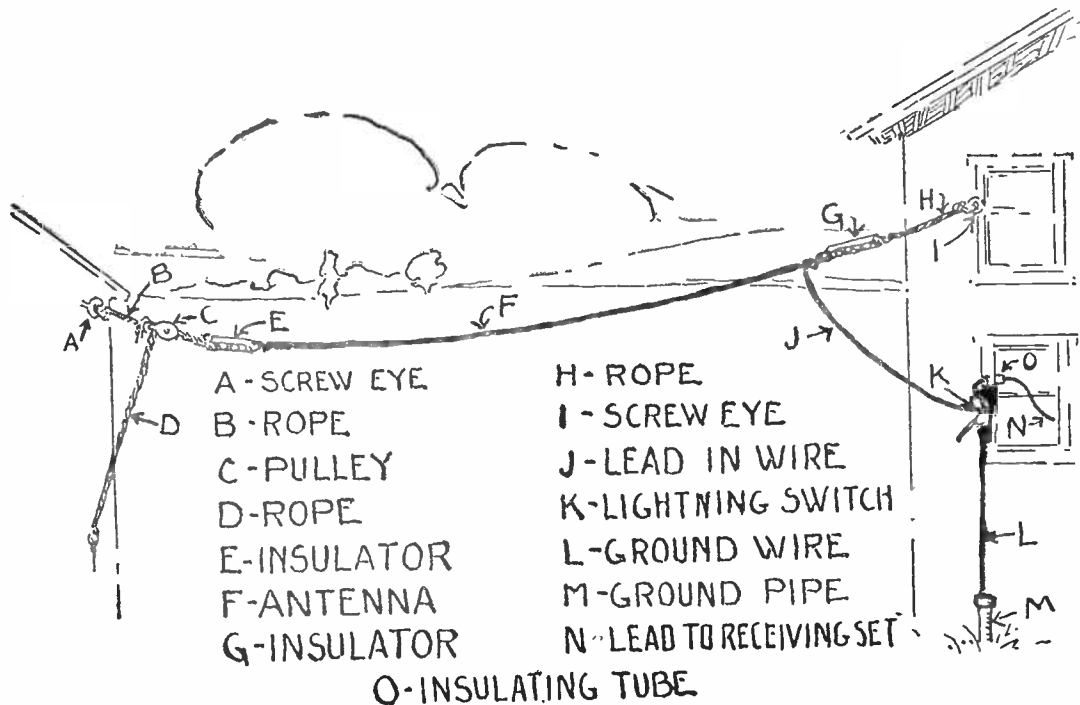

Fig. 7
house, it relieves one of the need of erecting one or both antenna supports. The antenna should not be less than 30 feet above the ground and its length should be between 75 and 100 feet. (See Fig. 7.) While this figure indicates a horizontal antenna, it is not important that it be strictly horizontal. It is in fact desirable to have the far end as high as possible. The "lead-in" wire or drop-wire from the antenna itself should run as directly as possible to the lightning switch. If the position of the adjoining buildings or trees is such that the distance between them is greater than about 125 feet, the antenna can still be held to a 100 feet distance between the insulators by increasing the length of the piece of rope (D) to which the far end of the antenna is attached. The rope (H) tying the antenna insulator to the house should not be lengthened to overcome this difficulty, because by so doing the antenna "lead-in" or drop-wire (J) would be lengthened.
Details of Parts—The parts will be mentioned here by reference to the letters appearing in Figs. 7, 8, 9.
E and G are two insulators which may be constructed of any dry hard wood of sufficient strength to withstand the strain of the antenna; blocks about $1\frac{1}{2} \times 2 \times 10$ inches will serve. The holes should be drilled as shown in Fig. 7 sufficiently far from the ends to give proper strength. If wood is used the insulators should be boiled in paraffin for about 1 hour. If porcelain wiring cleats are available they may be substituted instead of the wood insulators. If any unglazed porcelain is used as insulators, it should be boiled in paraffin the same as the wood. Regular antenna insulators are advertised on the market, but the two improvised types just mentioned will be satisfactory for an amateur receiving antenna.
ceiving set may be secured to the insulator (E) by any satisfactory method, being careful not to kink the wire. Draw the other end of the antenna wire through the other insulator (G) to a point where the two insulators are separated by about 100 feet, twist the *insulator* (G) so as to form an anchor as shown in Fig. 7. The remainder of the antenna wire (J) which now constitutes the "lead-in" or drop-wire should be just long enough to reach the lightning switch.